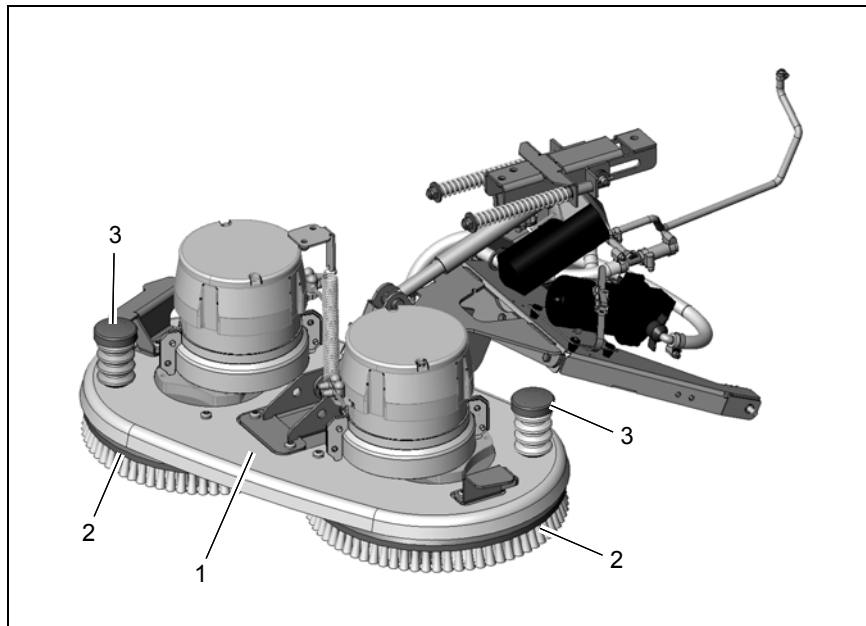

Fig. 25
Clean the brushes (Fig. 25/2) on the brush head (Fig. 25/1) daily or as necessary.
2. Press the brush ejectors (Fig. 25/3) downward and remove the brushes to clean them.
2. Press the brush ejectors (Fig. 25/3) downward and remove the brushes.